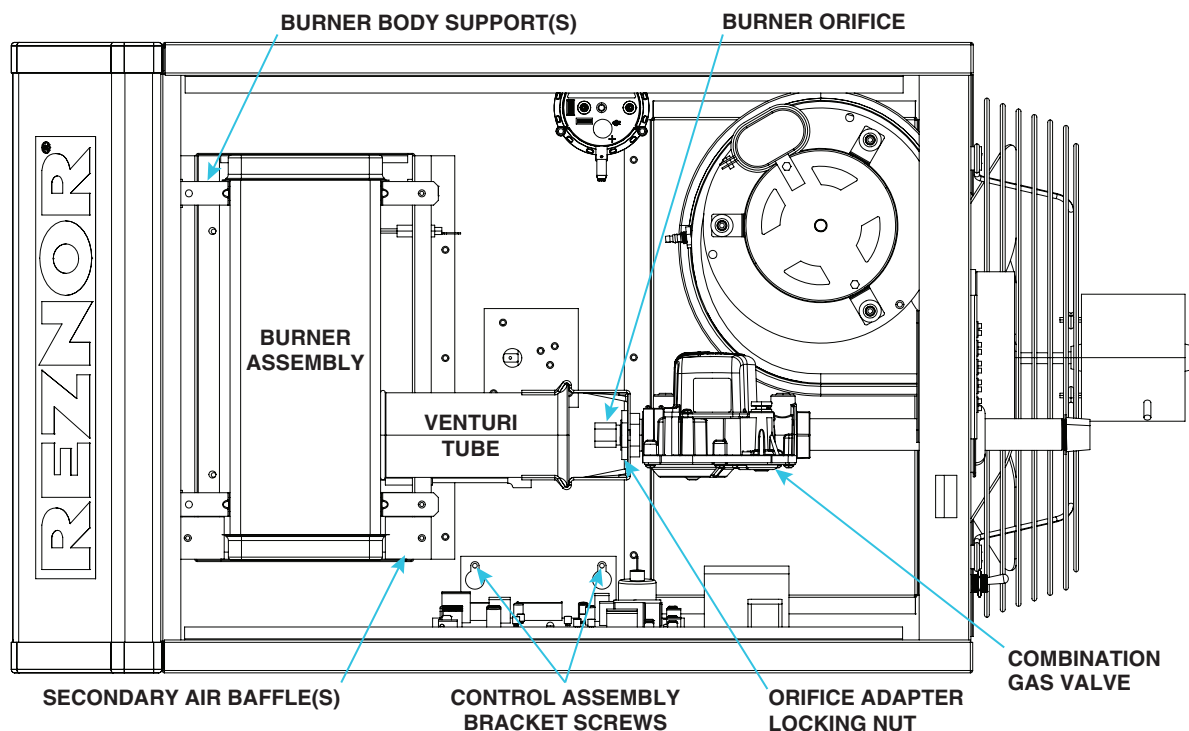

Figure 23. Burner Compartment (Typical)
Visually inspect the burner compartment (see Figure 23). If there is an accumulation of dirt, dust, and/or lint, clean the compartment and remove and clean the burner as follows:
2. Remove burner assembly (see Figure 23):
- (1) Remove four screws that secure end cap to burner housing.
- (2) Lightly tap end cap to remove it.
5. Re-install burner assembly (see Figure 23):